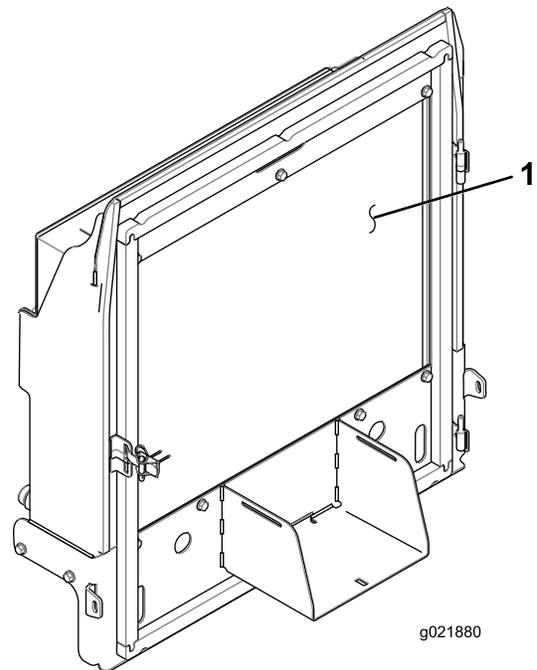

Figure 92
4. Thoroughly clean both sides of the radiator/oil cooler with compressed air (Figure 92).